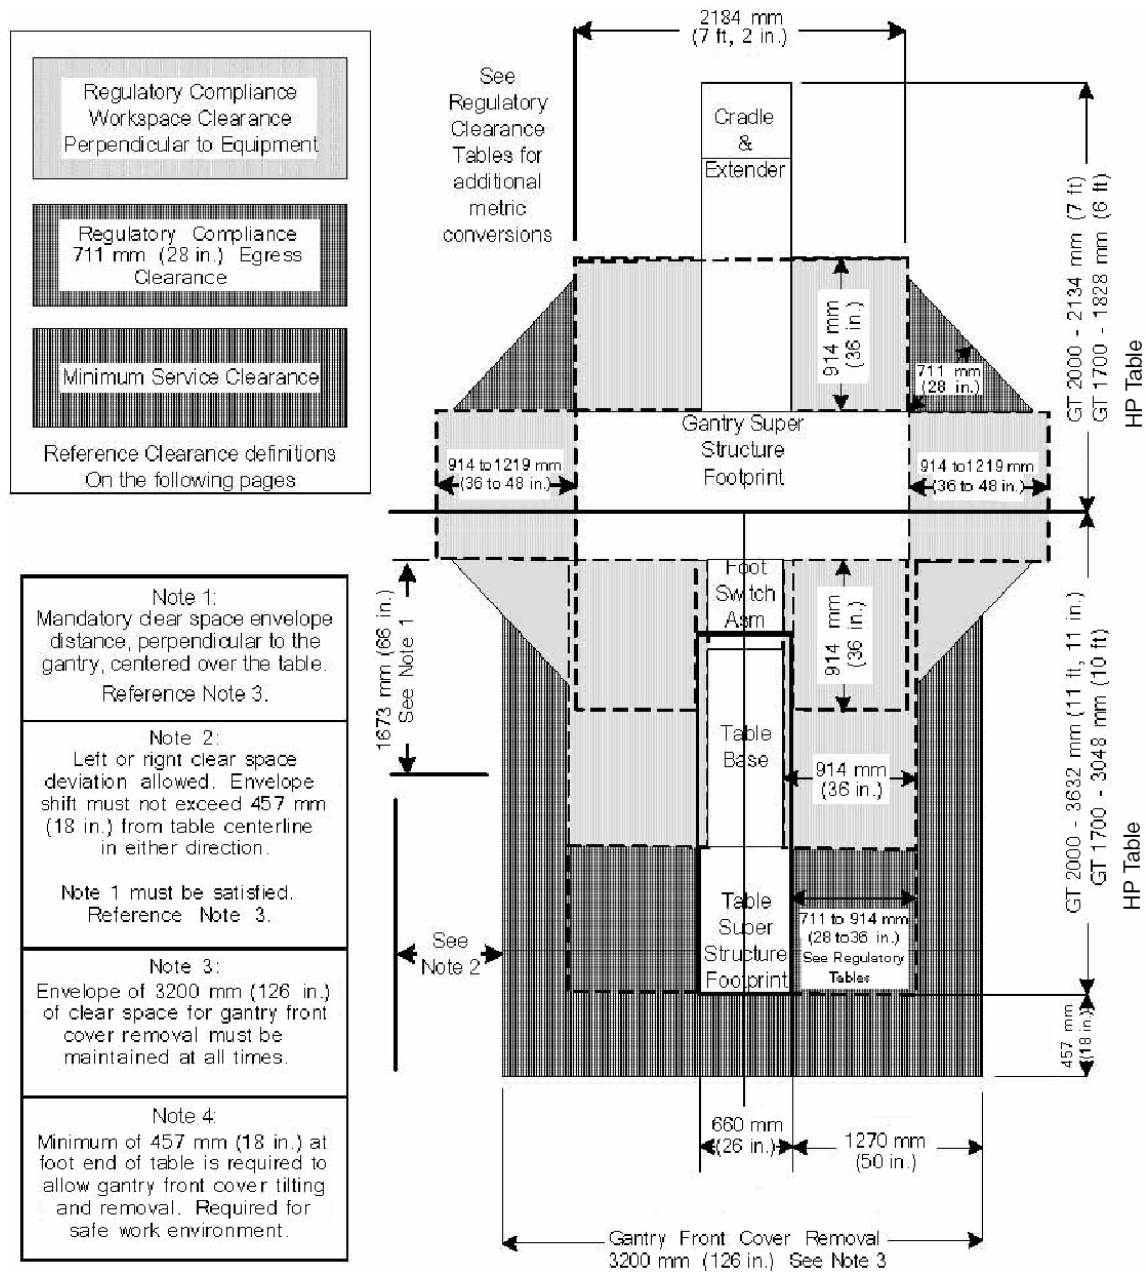
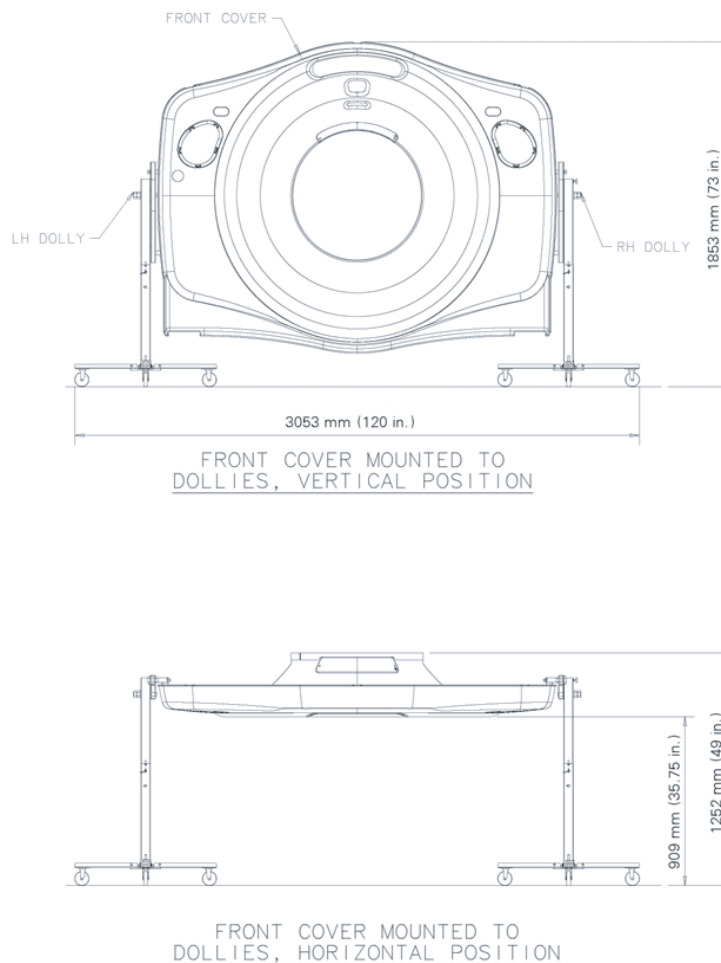

Figure 4-4 Minimum Service Clearance
Figure 4-9 Gantry Front Cover with Service Dolly Dimensions
- Gantry front cover removal requires the use of the Tilting Cover Dollies. These dollies allow the Service Engineer to separate the cover from the gantry, tilt the cover 90 degrees, roll the cover to the foot end of the table, and then tilt the cover an additional 90 degrees, such that the front cover is now upside down relative to the normal system-mounted condition. Figure 4-4 illustrates the minimum clear space required to achieve this operation of 3,200.4 mm (126 in.). The gantry front cover must be removed to a position that satisfies the minimum regulatory clearances.
- The gantry rear cover with service dollies installed, requires a width of 2387.6 mm (94 in.) and a depth of 584.2 mm (23 in.) of clearance for removal as shown in Section 6.0, Figure 4-9. Sufficient space must be calculated to move the cover either straight back or to one side of the table to satisfy the minimum service clearance shown in Figure 4-4. This means the rear cover cannot violate the workspace on the rear, or on either side of the gantry.